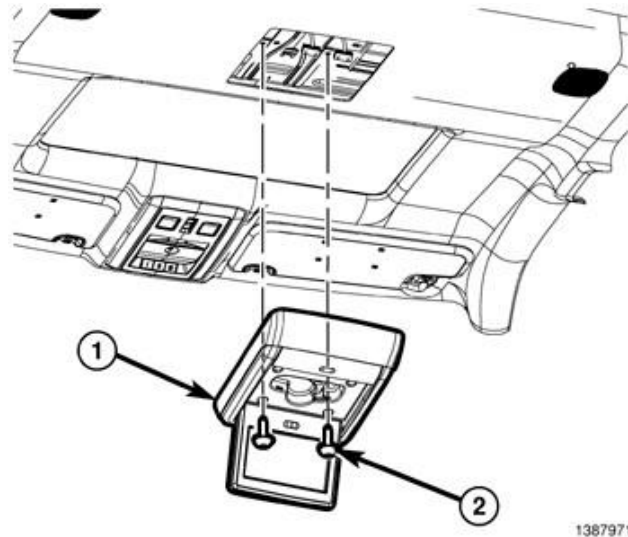
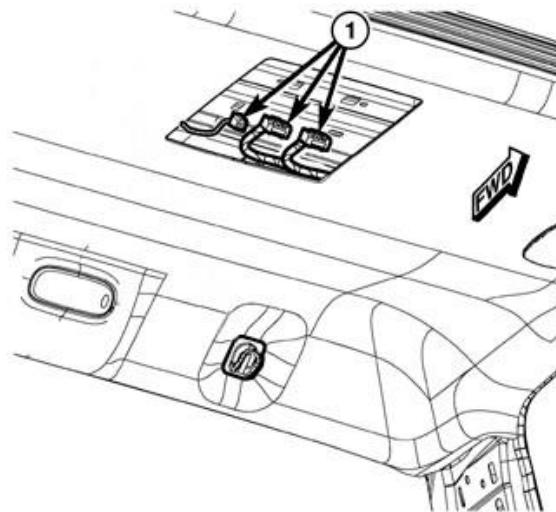

Figure 31 – Rear Seat DVD Monitor
Figure 32 – DVD Monitor Electrical Connectors
26. If equipped with DVD monitor, remove the screws (2) and separate the monitor (1) from the roof (Figure 31).
27. If equipped with DVD monitor, disconnect the electrical connectors (1) (Figure 32).
53. If equipped with DVD monitor, connect the DVD monitor electrical connectors (1) (Figure 32). Position the DVD monitor to the roof then install and tighten the screws (2) (Figure 31).